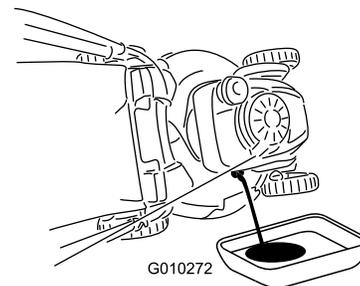

Figure 39
7. Tip the machine onto its side, with the oil-fill tube down, to drain the used oil through the oil-fill tube into the oil-drain pan (Figure 39).